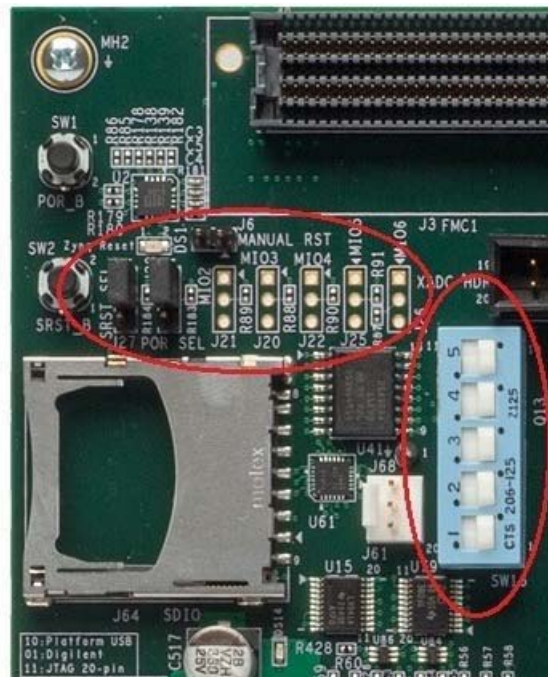

Figure 6-2: Ensure the SW16 Switch Setting
- b. Ensure that the SW16 switch is set as shown in Figure 6-2.